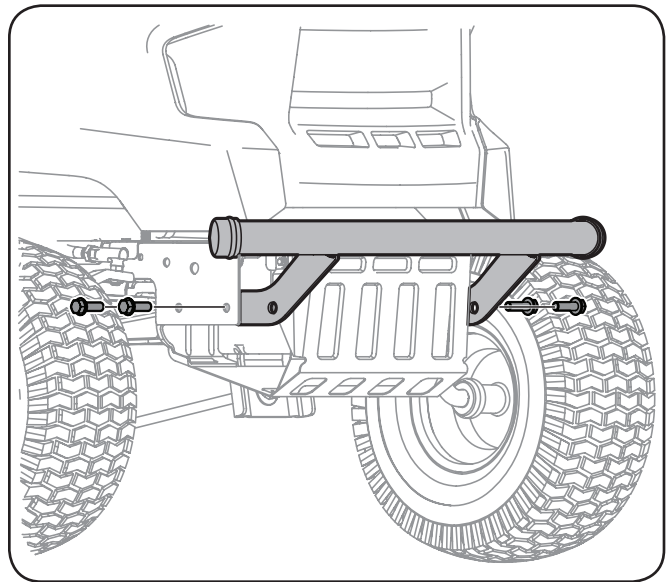

Figure 3-9
2. Position the bumper brackets to the *inside* of the tractor’s frame and secure it in place with the four hex flange screws. See Figure 3-9.